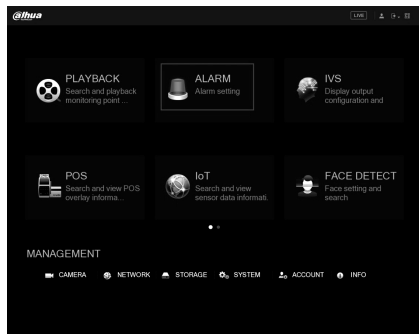
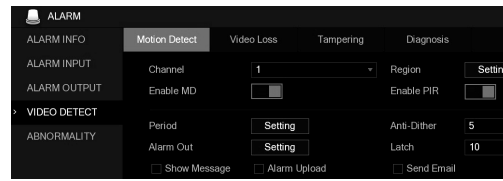
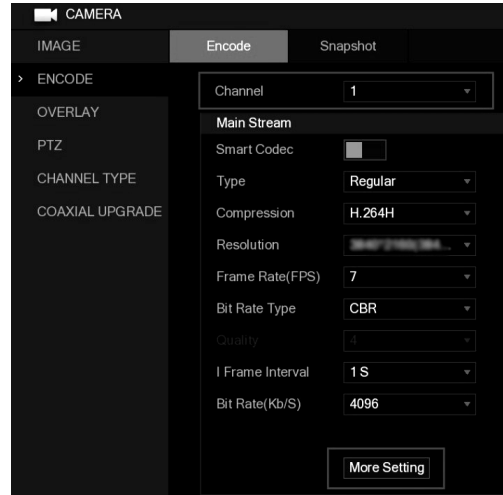

Figure 5-2
Figure 5-3
Figure 5-4
Step 2 Click **Main Menu**. The Main Menu interface is displayed. See Figure 5-2.
Step 1 In the Main Menu interface (Figure 5-2), select **ALARM > VIDEO DETECT > Motion Detect**. The Motion Detect setting interface is displayed. See Figure 5-3.
Step 1 In the Main Menu interface (Figure 5-2), select **CAMERA > ENCODE > Encode**. The Encode setting interface is displayed. See Figure 5-4.
Step 6 In the Encode setting interface (Figure 5-3), click **Apply**.